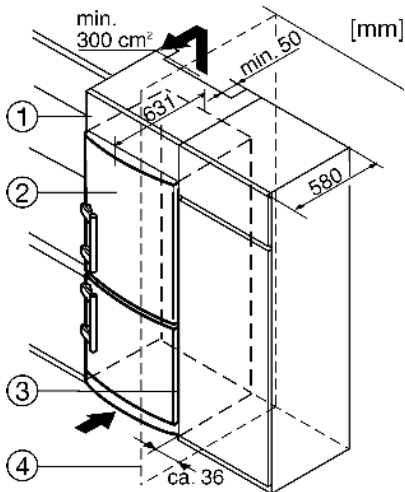

Fig. 9
- (1) Stack cabinet
(2) Appliance
(3) Kitchen cabinet
(4) Wall
The appliance can be inserted into a row of kitchen units. To match the appliance Fig. 9 (2) to the height of the row of units, a suitable stack cabinet Fig. 9 (1) can be fitted above the appliance.
When inserting the appliance into a row of standard kitchen units (max. depth 580 mm), the appliance can be installed directly next to the kitchen unit Fig. 9 (3). The appliance door projects relative to the front of the kitchen unit by 34 mm at the side and by 50 mm in the middle of the appliance. It can be opened and closed perfectly as a result.
If the appliance is installed with the hinges next to a wall Fig. 9 (4), the distance between appliance and wall has to be at least 36 mm. This corresponds to the projection of the handle when the door is open.